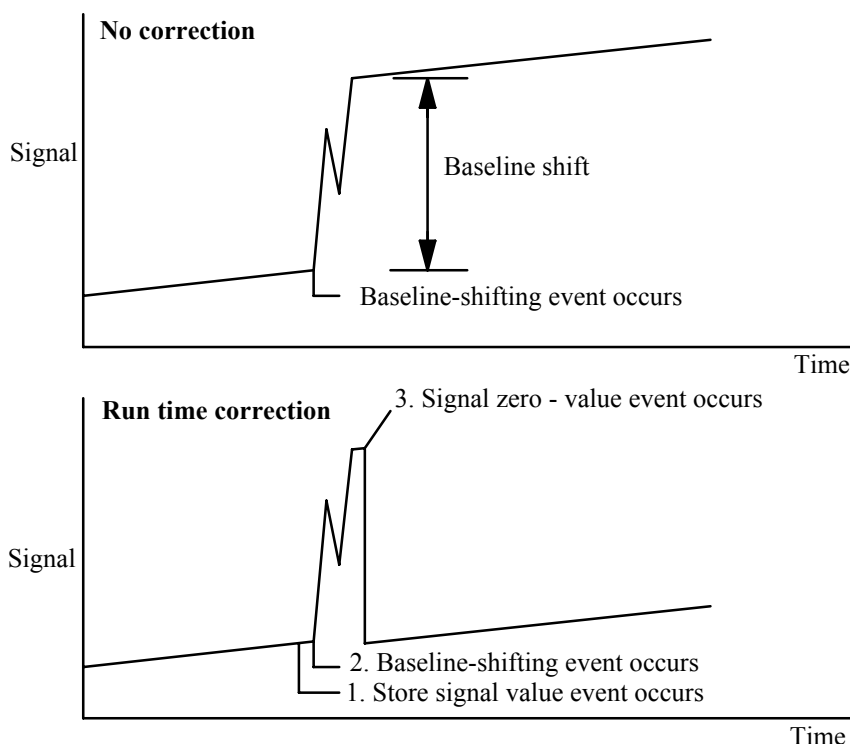

Figure 2. Correcting baseline level shifts
- *Signal Zero - Value*—This shifts the disturbed baseline by subtracting the value stored by a Store Signal Value event from all future signal values. When these two events surround a baseline-shifting action, the effect is to bring the new baseline to the previous level. The Store event must occur before the baseline shift, and the Zero - Value event must occur after the baseline has stabilized at the shifted level. See Figure 2.